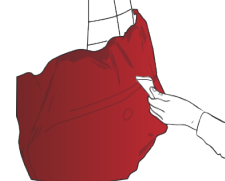

Figure 14
- Apply the film over the whole surface using a felt-covered, plastic squeegee, and carefully wipe over the convex area (FIG. 14) to eliminate any tensions and folds.